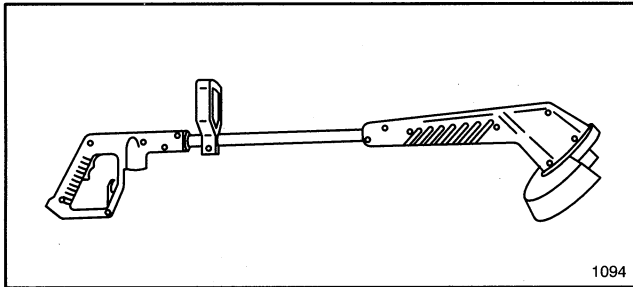

Figure 2
Trimmer should appear as shown in Figure 2 when fully assembled.
**Note:** If grooves and holes don't align, make sure tube is fully inserted into hole and motor housing is in line with upper handle as shown in Figure 2.
**3.** Secure motor housing to tube with (2) two machine screws and (2) two nuts.